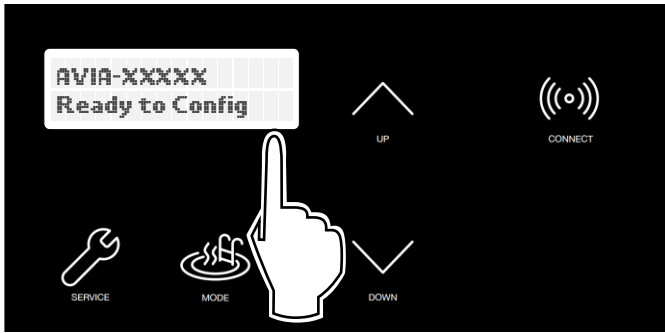

Figure 80. Wi-Fi Ready to Configure and HOTSPOT Identifier
2. The CONNECT menu should display the Wi-Fi State, indicating "Ready to Config" wireless connection, and also the HOTSPOT identifier. See **Figure 80**.